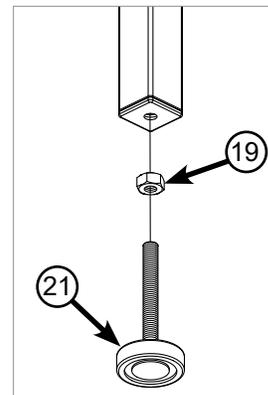

Fig. 11
- Locate the two support legs and remove the two feet from the T-Glide Table Hardware Pack along with two M8 hex nuts. Thread an M8 hex nut onto the threaded shaft of each foot so that the nut is close to the rubber base, and then thread the foot into the bottom of the support leg as far as possible (see Fig. 11).